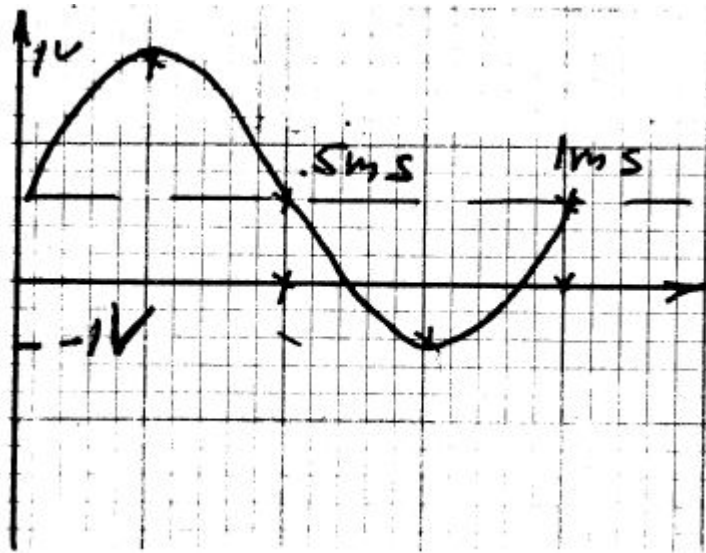

Figure 5:
- h. Apply the input voltage v_i of to one channel of the oscilloscope with the AC-GND-DC coupling switch in the GND position and set the resulting horizontal line (zero reference level) in the middle of the screen. Then move the AC-GND-DC coupling switch to the AC position and make rough sketch of the waveform on Figure 5 clearly showing the zero reference line and the number of vertical and horizontal divisions. Using the chosen sensitivities label the magnitudes of the various horizontal an vertical grid lines.